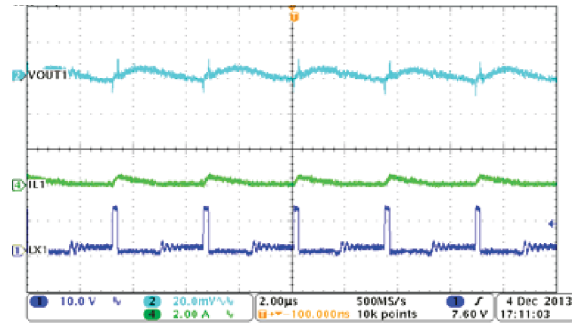
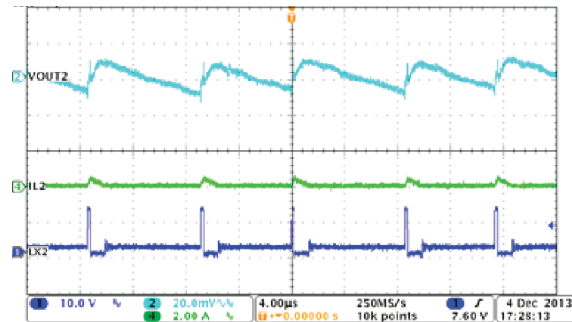
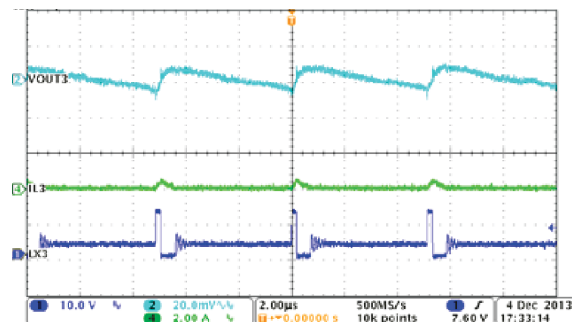

图 8-9. Buck1, Steady State Operation With Light Load
图 8-11. Buck2, Steady State Operation With Light Load
图 8-13. Buck3, Steady State Operation With Light Load
The device is designed to operate in high-efficiency PSM under light load conditions. Pulse skipping is initiated when the switch current falls to 0.23 A. During pulse skipping, the low-side FET is turned off. The switching node (LX) waveform takes on the characteristics of DCM operation and the apparent switching frequency decreases as shown in 图 8-9, 图 8-11, and 图 8-13.